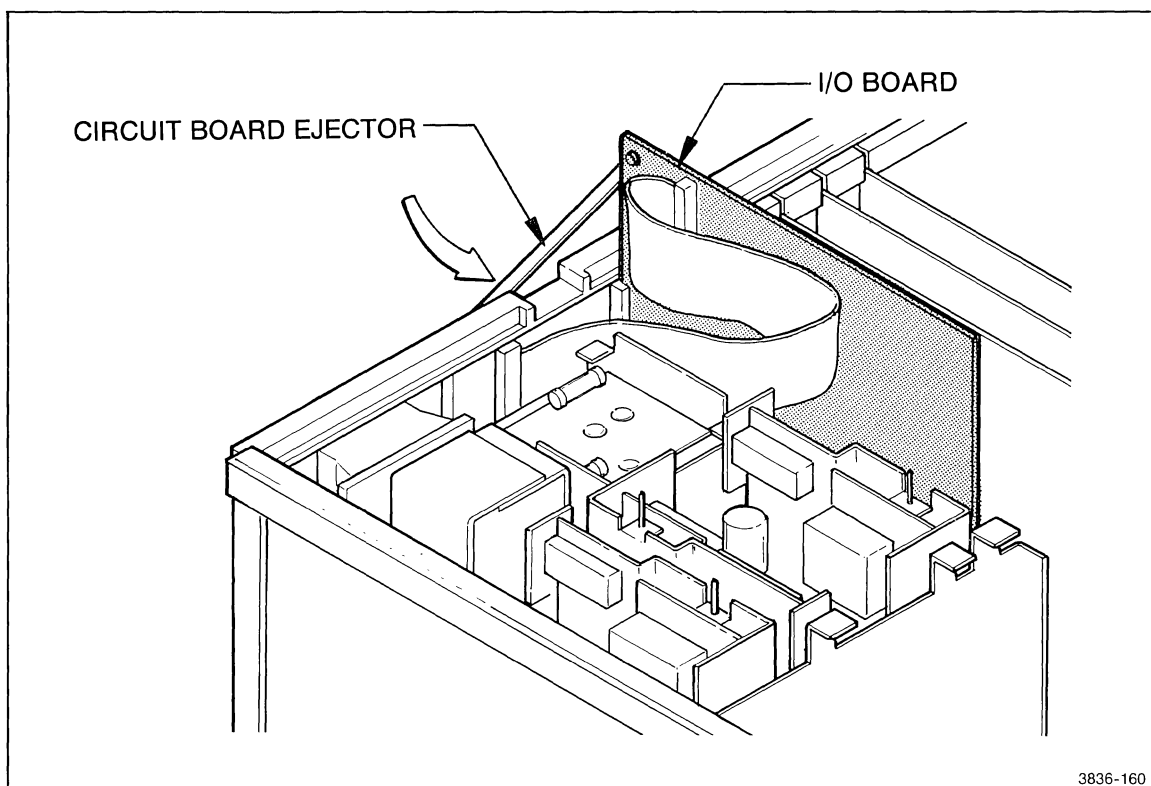

Figure 5-40. Disconnecting the I/O Interface.
5. If the system being adjusted contains Option 02, the I/O Interface, this board should also be removed from the Interconnect (see Figure 5-40). The I/O Option board should be pulled straight up, out of the Interconnect's socket.